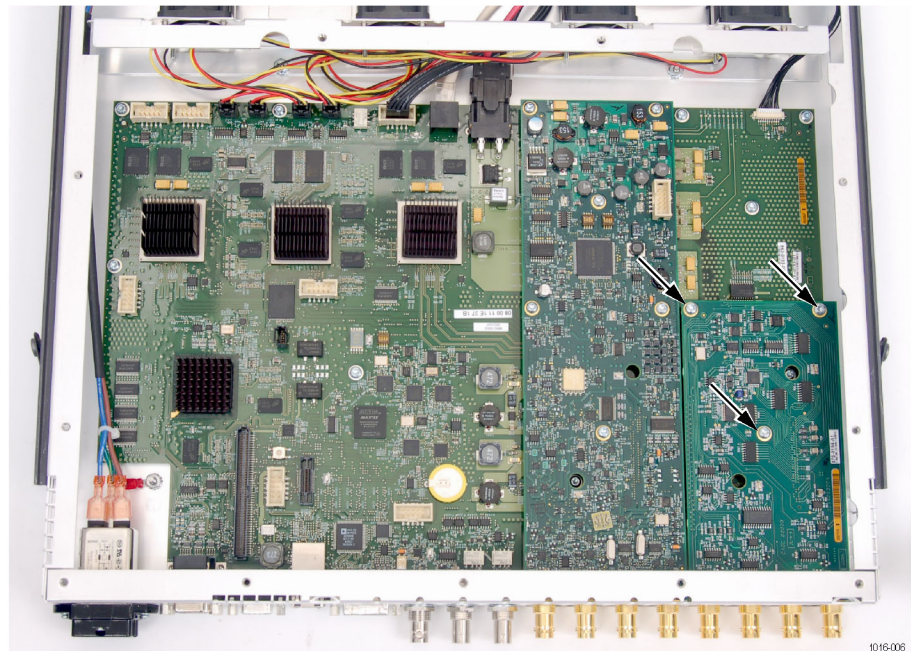

Figure 9: CPS board installation
6. Secure the CPS board to the three mounting posts with the three T-15 screws from the kit. Tighten firmly, but not excessively. (See Figure 9.)